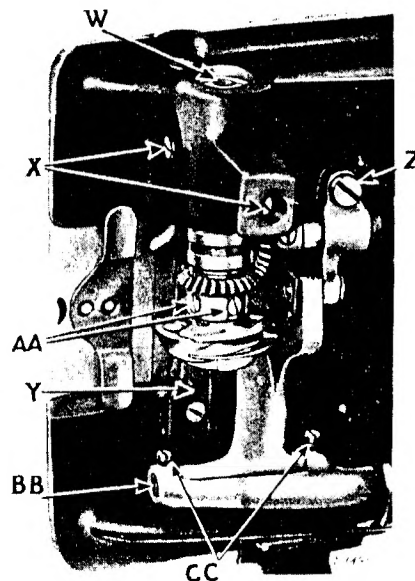

Fig. 21
The point of the hook should come as close as possible to the needle without touching it. Loosen the four screws (X and AA, Fig. 21) and slide the hook to the correct position, then tighten the two screws (X). Reset the gear on the hook shaft and tighten screws (AA).
Remove the bobbin case stop (Y, Fig. 21), loosen the hook spindle screw (W) a few turns and tap it lightly to loosen the hook. Then remove the screw (W) and withdraw the hook from its socket.
Remove the throat plate; clean the lint and dirt from between the feed points and replace the throat plate; tip the machine back and turn the machine pulley toward you until the feed dog is at its highest position; loosen screw (Z, Fig. 21) and raise or lower the feed dog as required, then tighten the screw (Z).
Loosen the two screws (CC, Fig. 21) and turn the eccentric stud (BB, Fig. 21) to level the feed dog, then tighten the screws (CC).